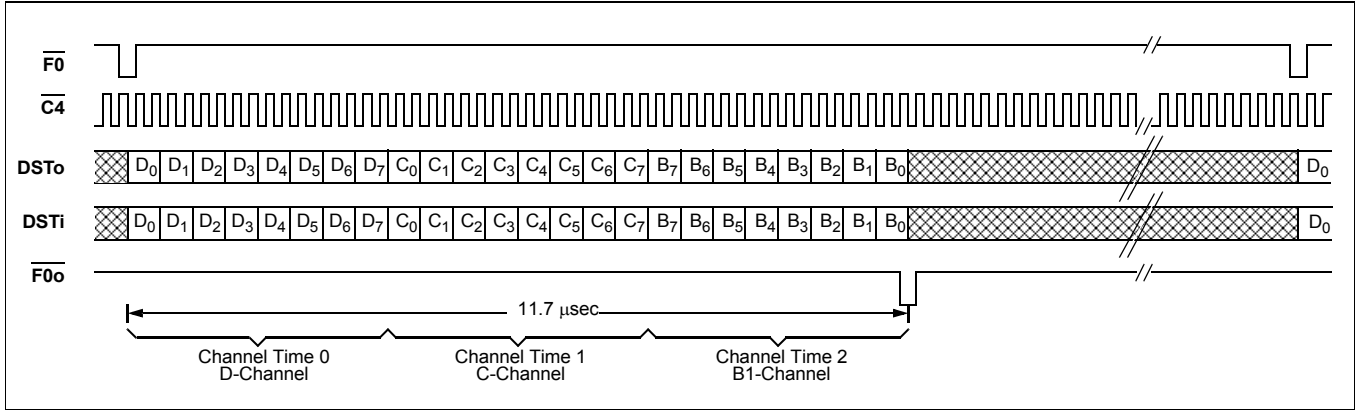
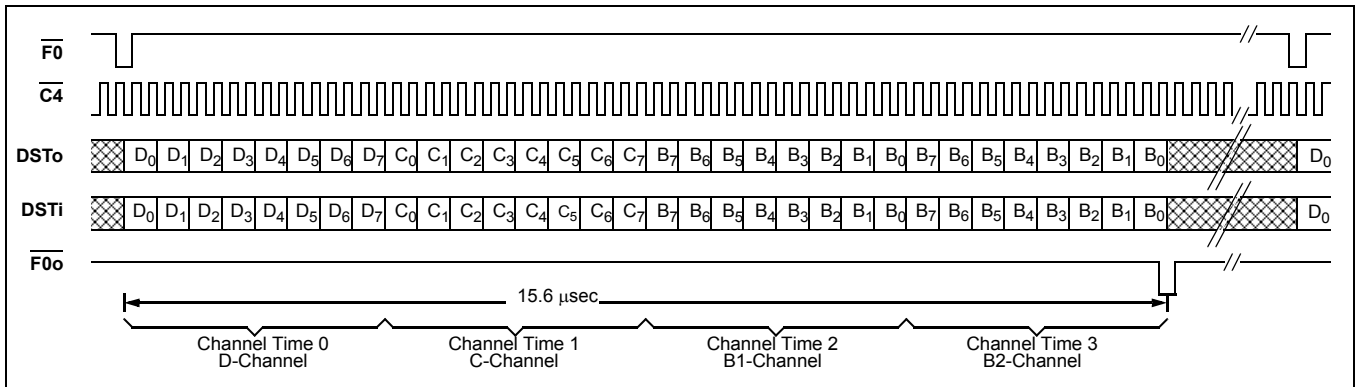

Figure 5 - DV Port - 80 kbit/s (Modes 0,4)
Figure 6 - DV Port - 160 kbit/s (Modes 0,4)
In DIGITAL NETWORK (DN) mode there are three channels transferred by the DV and CD ports. They are the B, C and D channels. The B1 and B2 channels each have a bandwidth of 64 kbit/s and are used for carrying PCM encoded voice or data. These channels are always transmitted and received through the DV port (Figure 3, Figure 4, Figure 5, and Figure 6). The C-channel, having a bandwidth of 64 kbit/s, provides a means for the system to control the DNIC and for the DNIC to pass status information back to the system. The C-channel has a Housekeeping (HK) bit which is the only bit of the C-channel transmitted and received on the line. The 2B+D channel bits and the HK bit are double-buffered. The D-channel can be transmitted or received on the line with either an 8, 16 or 64 kbit/s bandwidth depending on the DNIC's mode of operation. Both the HK bit and the D-channel can be used for end-to-end signalling or low speed data transfer. In DUAL port mode the C and D channels are accessed via the CD port (Figure 7) while in SINGL port mode they are transferred through the DV port (Figure 5 and Figure 6) along with the B1 and B2 channels.
The D-channel is always passed during channel time 0 followed by the C and B1 channels in channel times 1 and 2, respectively for 80 kbit/s. See Figure 5. For 160 kbit/s the B2 channel is added and occupies channel time 3 of the DV port. See Figure 6. For all of the various configurations the bit orders are shown by the respective diagram. In MOD mode, the DV and CD ports no longer operate at 2.048 Mbits/s but are continuous serial bit streams operating at the bit rate selected of 80 or 160 kbit/s. While in the MOD mode only DUAL port operation can be used.